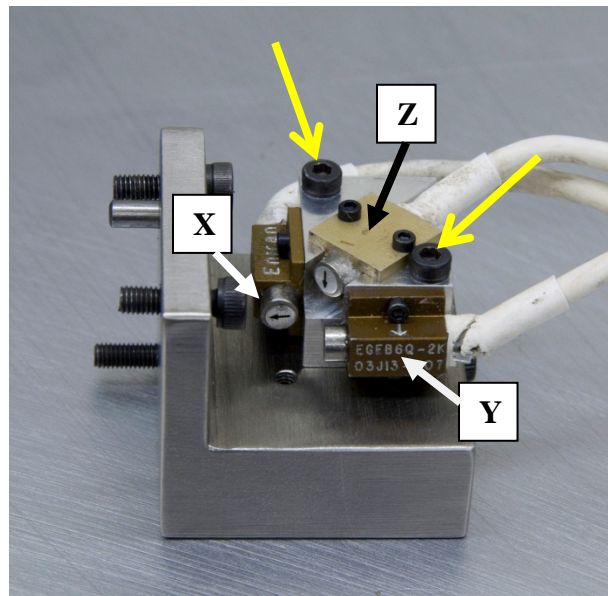

Figure 3. Accelerometers installed to bracket
- Attach the accelerometer block to the accelerometer bracket (Figure 3) using two (2) M2.5 x 0.45 x 16 SHCS. Ensure that all axes are oriented properly with respect to the bracket.